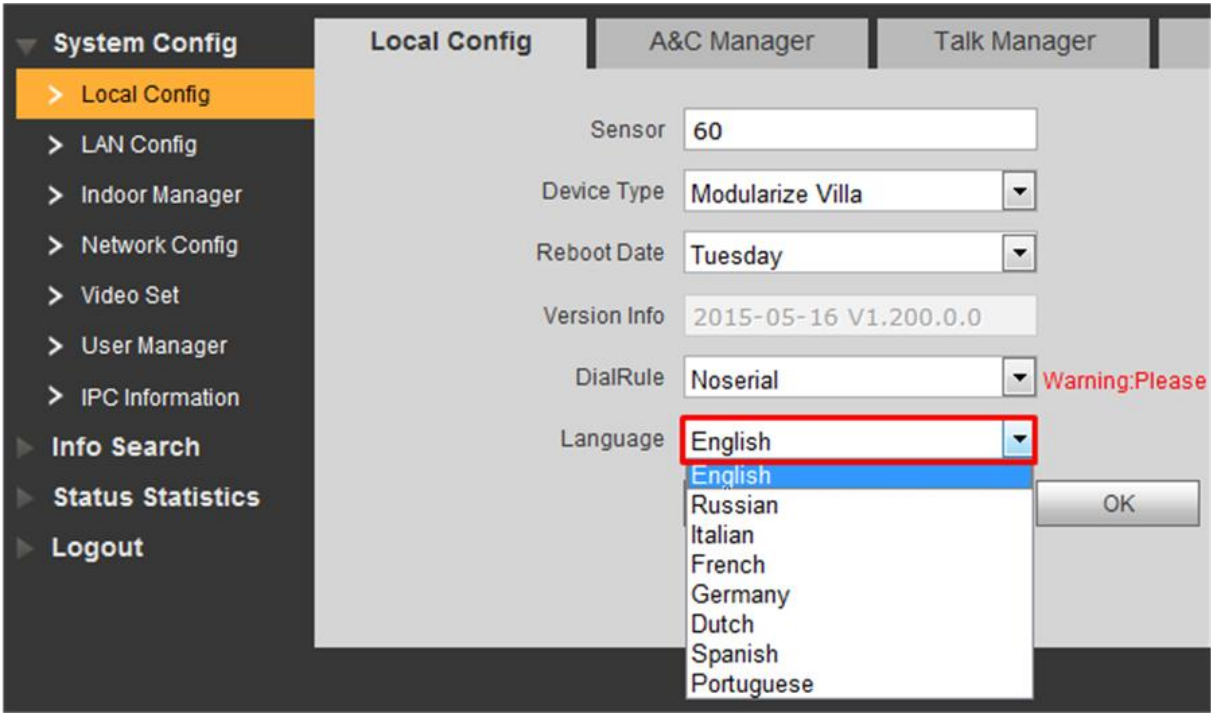

Figure 2-3
- Please use the PC to access the VTO. Open the browser and then input the VTO IP address. Click the Enter, input user name and password to login. System supports English, Russian, Italian, French, Germany, Dutch, Spanish, and Portuguese by default. See Figure 2-3.